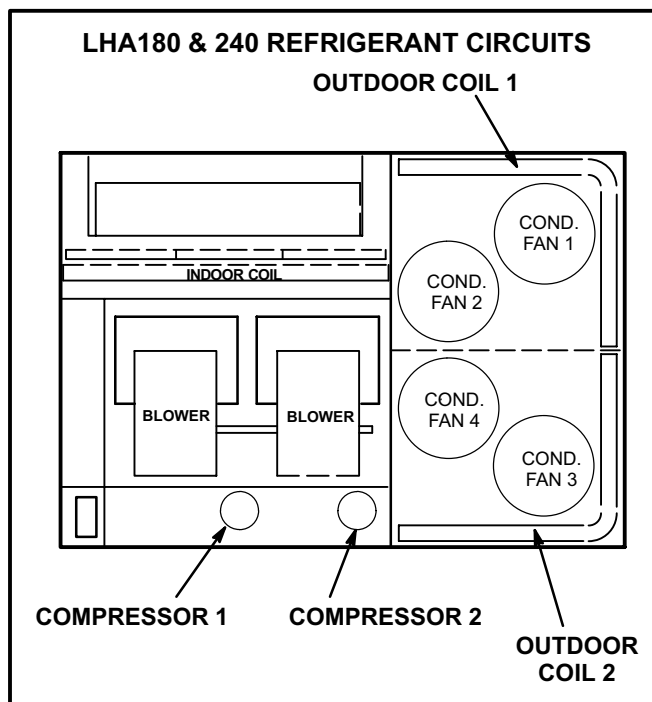

FIGURE 10
- 3- Units contain two refrigerant circuits or systems. See figure 10.